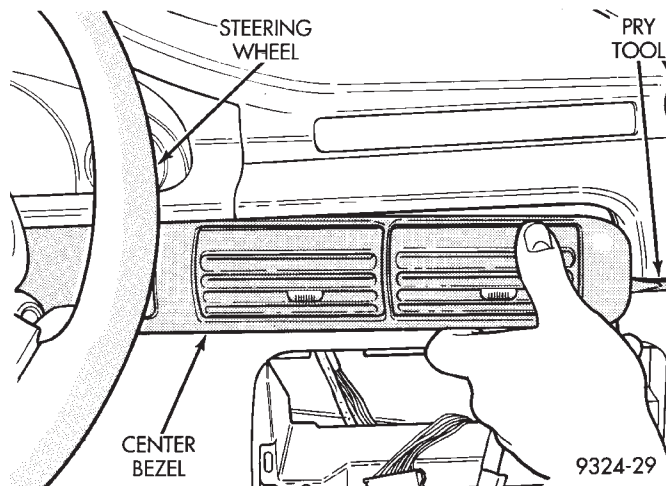

Fig. 54 Center Bezel Removal
(11) Remove the radio center bezel which is held in place by six clips. This can be done by carefully prying the bezel from the instrument panel.
(12) Remove the radio. Remove the heater A/C control head from the panel and place in a safe area.
(13) Remove the center instrument panel bezel (Fig. 54). This bezel is held in place by four clips. It can be removed by carefully prying it from the instrument panel.
(14) Remove center console from vehicle (if equipped).
(15) If the vehicle is equipped with a right side air bag, the glove box must be lowered. The glove box assembly can be lowered by pressing in on the sides of the glove box. This will release the glove box and allow access to air bag mounting screws. There are four screws located behind the glove box. Remove these screws and then close the glove box.
(16) Remove lower bolster retaining screws.
(17) Carefully lower the bolster and disconnect the trunk release and glove box light wiring. Then remove the lower bolster from the vehicle.